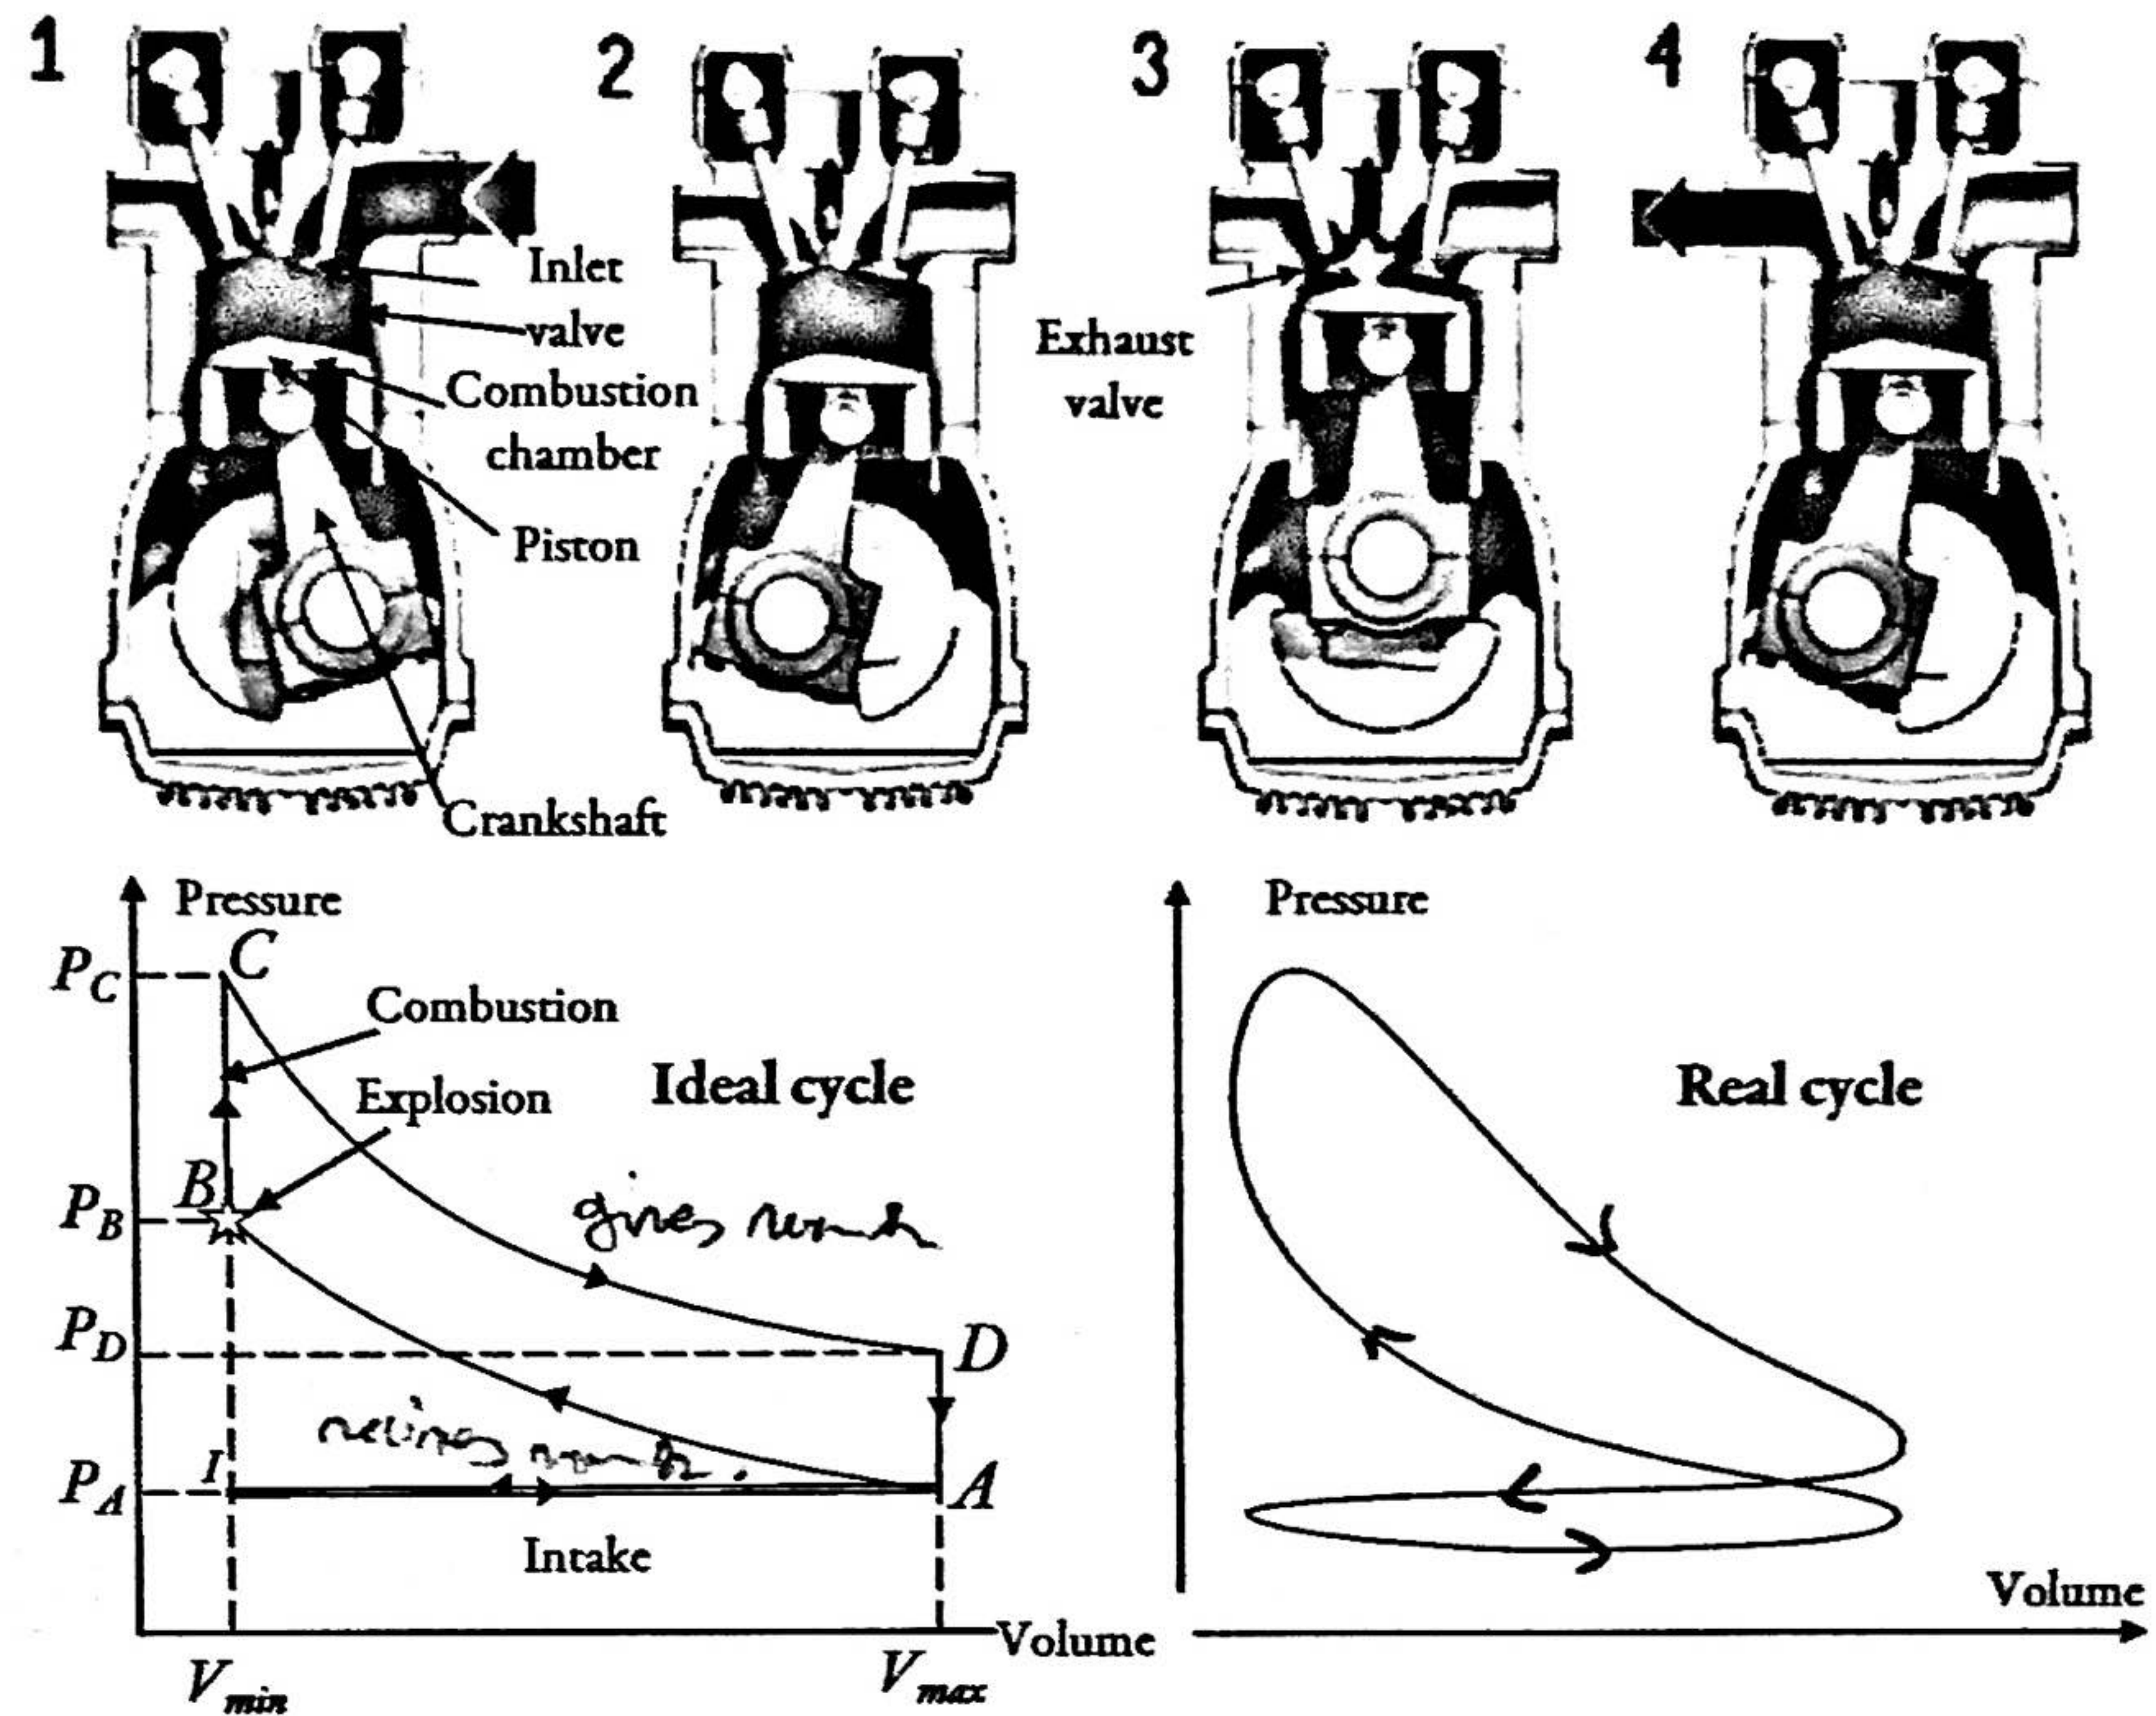

Figure 1: Operation of of 4-stroke engine
This exercise studies the cycle of the four-stroke engine which was invented by Beau de Rochas in 1862 and implemented in practice by the German engineer Otto in 1875. The operation of the motor is cyclic. The system consists of the air-fuel mixture contained in a cylinder (see figure 1).
The operation of the engine is shown schematically in a  $(P, V)$  Clapeyron diagram (see figure 1) where  $P$  is the pressure of the gaseous air-fuel mixture (considered an ideal gas) contained in the volume  $V$  of the cylinder chamber. The successive processes of the cycle are described as follows:
- 7) Calculate, in horsepower (a horsepower (hp) is equivalent to 736 W), the power of this engine at 4500 rpm (revolution per minute). One cycle equals two crankshaft revolutions (see Figure 1).